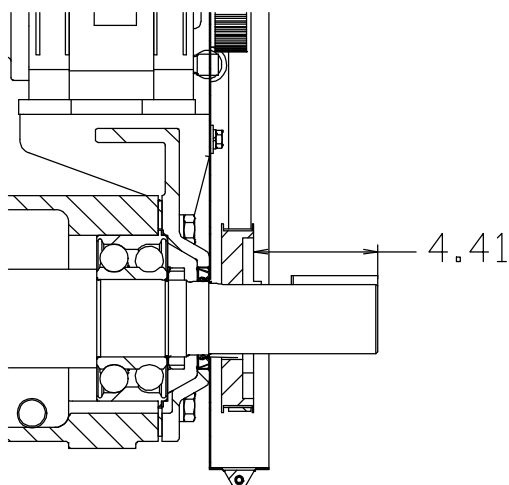

Figure 7. Drive Sprocket Positioning
Install the key (6) in the shaft keyway, making sure to leave room in the keyway for the drive key (28, Figure 3). Install the bushing (4) and sprocket (3) on the shaft to the dimension shown in Figure 7.